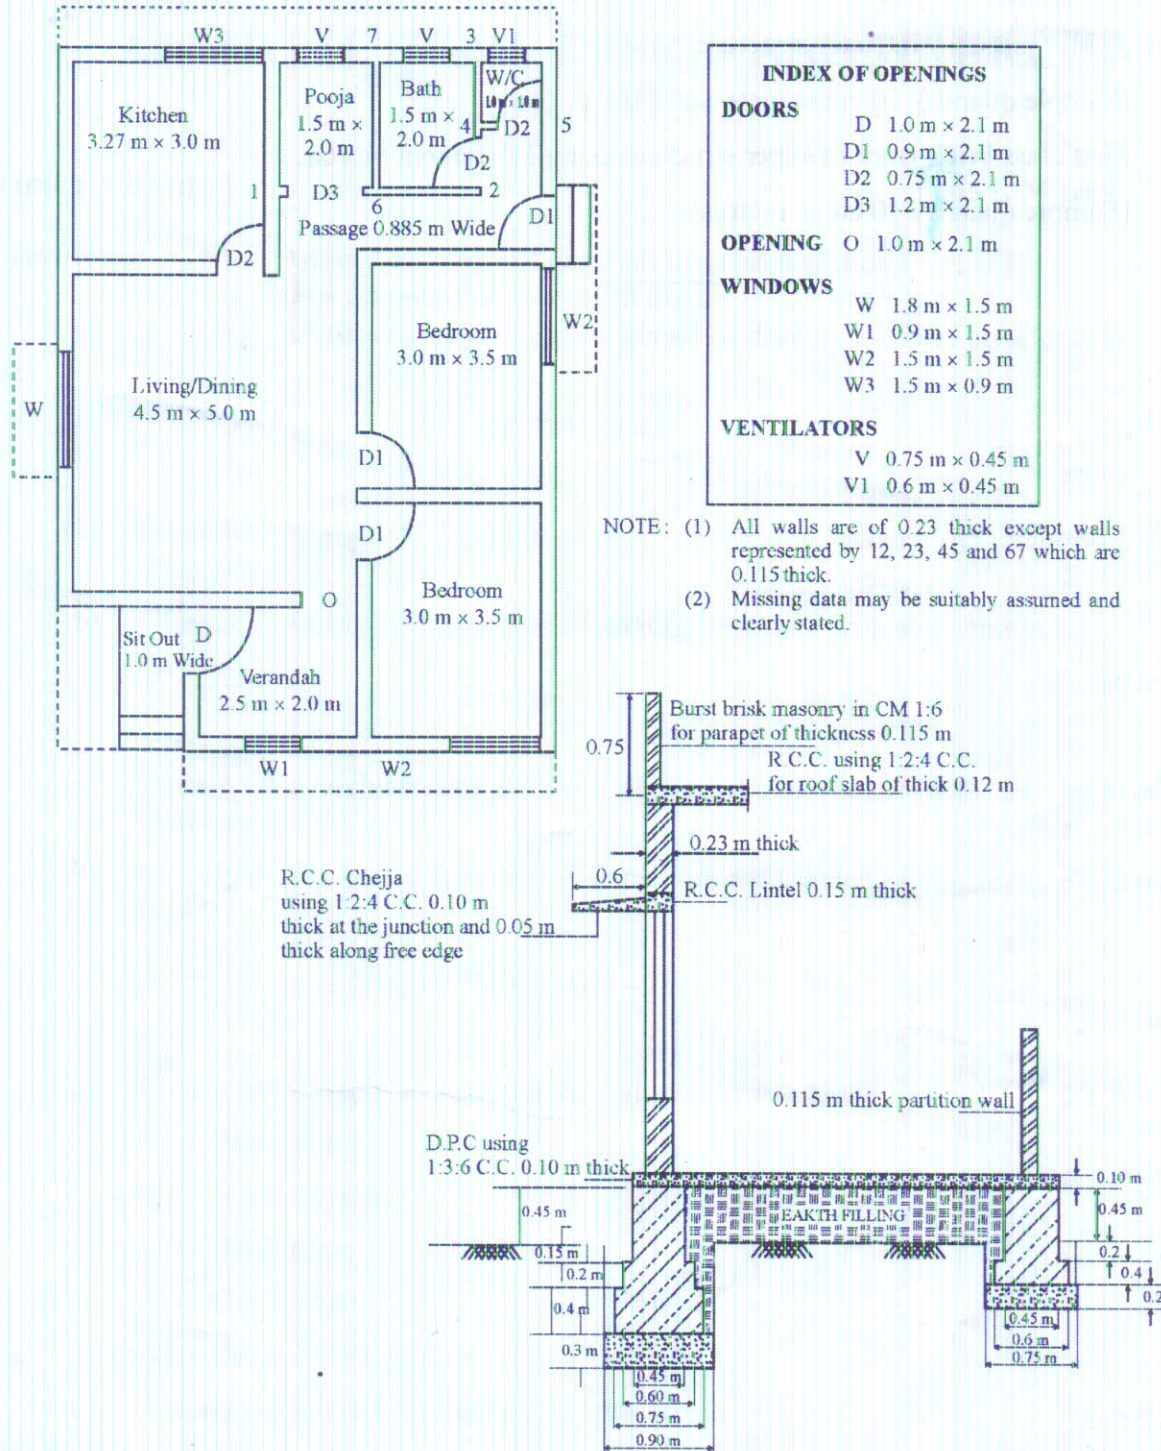

Figure 1
9. Prepare detailed estimate of quantities and abstract estimate along with brief specification for the following items of work for a residential building whose plan and sectional details are given in Figure. 1 : 10 + 10 = 20